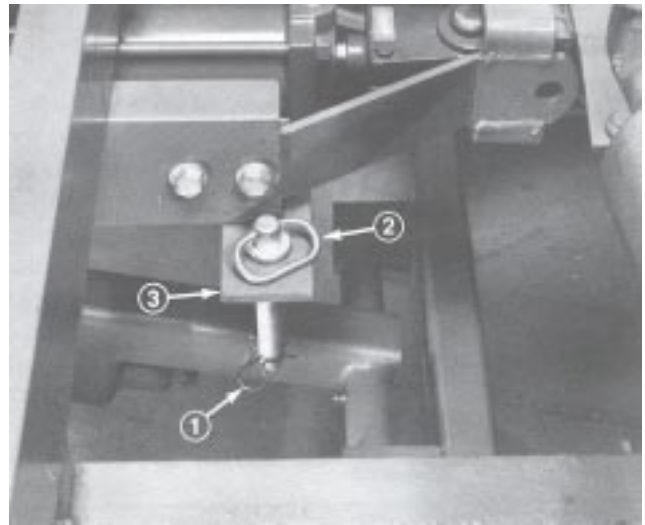

Figure 21
4. Remove hairpin cotter securing lockup pin to center cylinder rest (Fig. 21).
6. When mowing is to be resumed, remove transport strap from lift arms. Store on center frame channel and secure with hairpin cotteners (Fig. 19). Remove lockup pin secured to lockup bracket and secure to cylinder rest with hairpin cotter (Fig. 21).